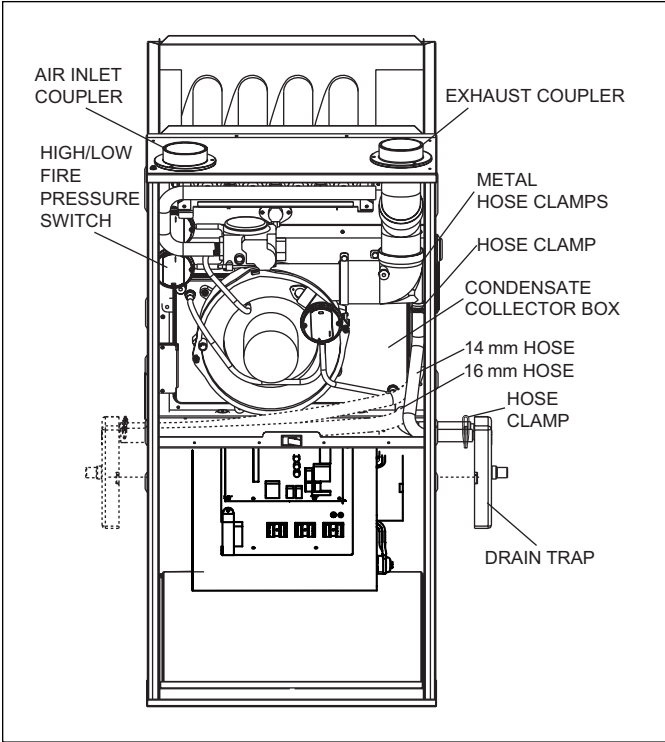

Figure 15 Upflow Installation, Top Venting
- 5. Connect Φ 16 mm hose between condensate collector box and drain trap and connect Φ 14 mm hose between inducer drain port and drain trap. (see Fig. 15).